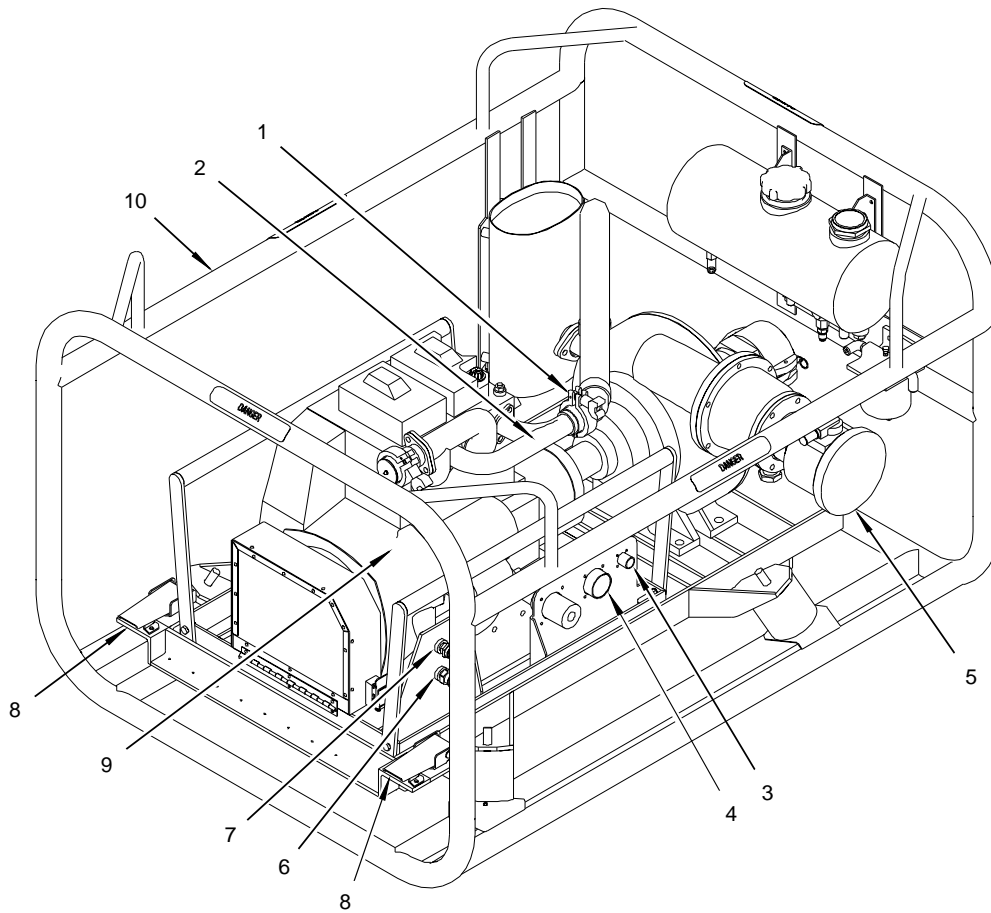

Figure 4. Pump-Engine Emplacement
7. Remove engine module from pump-engine module. (Refer to figure 4.)
- a. Unclamp exhaust pipe (1) from exhaust manifold (2).
- b. Disconnect pumpage over temperature cable at engine module connection panel J3 (3). Install dust caps on connectors. Wrap free end of cable around fuel transfer pump outlet (5).
- c. Disconnect fuel supply line (6) and fuel return line (7) at engine module. Connect free ends of lines together.
- d. Disengage latches (8) to unlatch engine module (9) from pump-engine frame (10) and slide engine module out of frame.
13. Install suction hoses (6) as required to connect fuel drums (2) to inlet manifold (4). Reposition pump-engine module (5) as required. Open valved unisex coupling valves on suction hoses and inlet manifold.
14. Install engine module in pump-engine module. (Refer to figure 4.)
- a. Slide engine module (9) into pump-engine frame (10), PTO end first. If flexible coupling splined adapter will not engage, it may be necessary to rotate the flex portion slightly to align with the splined flex coupling adapter.
- b. Engage latches (8) to secure engine module (9) to pump-engine frame (10).